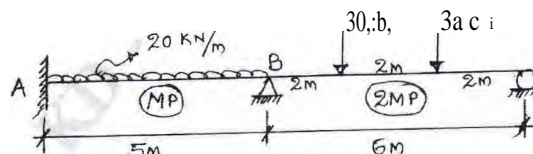

Fig.Q4(b)
- b. Calculate "plastic moment" for the beam as shown in Fig.Q4(b). Use load factor = 2.